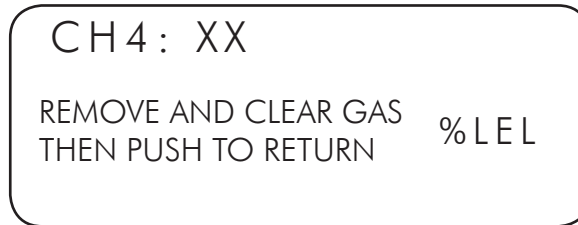

Figure 40
8. Remove calibration cup and allow gas to clear, as shown in figure 40.